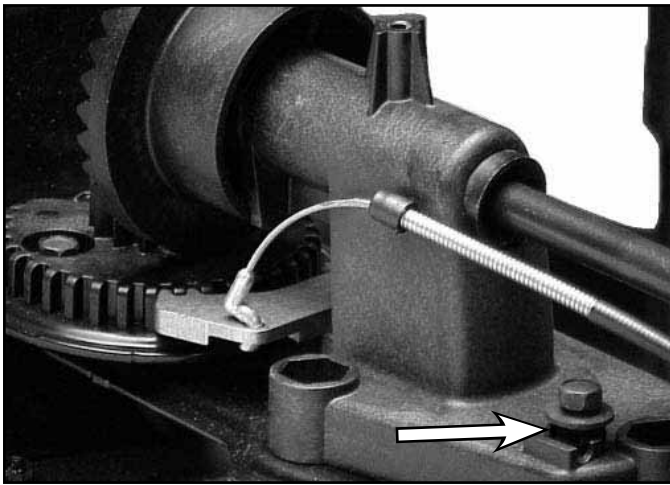

Fig 220
4. Loosen the screw securing the latch cable and unhook the cable from the latch (Fig. 220).